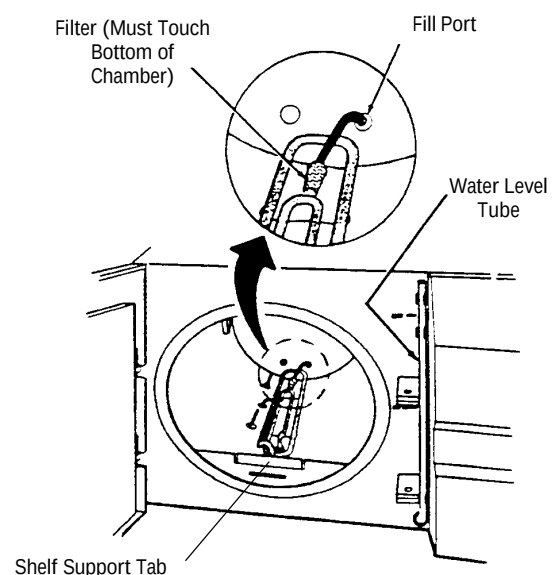

Figure 7-12
5. Place bottom shelf back into chamber and make sure the front edge of the shelf is inserted into tab for shelf support (Figure 7-12). Be careful not to dislodge filter when reinserting the bottom shelf.